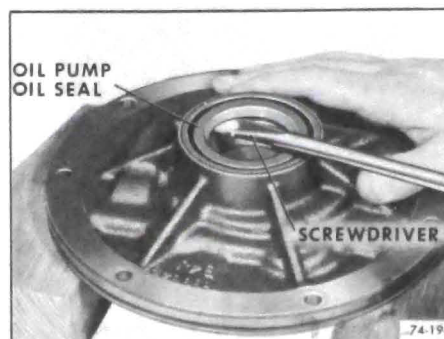

Figure 74-186
12. Examine oil pump seal. If nicked, torn or worn remove seal as follows: Support oil pump body on wood blocks. Remove oil seal with a screwdriver and discard. See Figure 74-186.